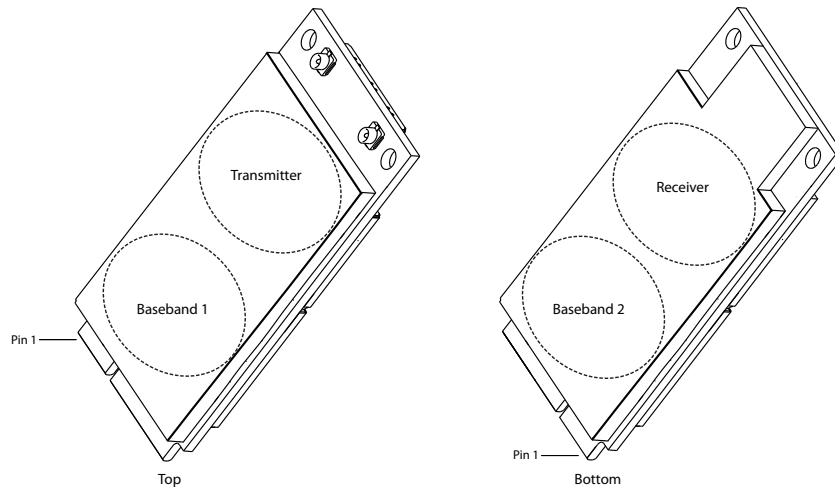

Figure 6-1: Shield locations
Specific areas requiring heat dissipation include the following four shield cases indicated in Figure 6-1 on page 68:
- Monitor temperature at all shield locations. Attach thermocouples to each shield in the areas indicated in Figure 6-1 on page 68 (Transmitter, Baseband 1, Receiver, Baseband 2).